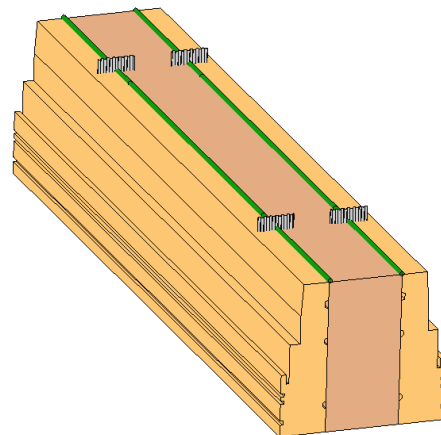

Figure 2
- After Corrugated staples are applied, run a 3/16" continuous bead of silicone down both corrugated sections. (figure 2).